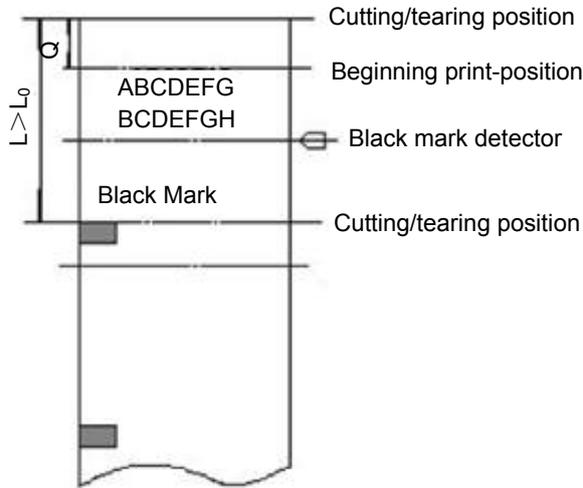

Figure 7-4
- (2) When the distance L between the cutting/tearing position and the black mark position is greater than the inherent mechanical value L0 of the printer (shown as figure 7-4), the calculation of cutting/tearing position offset is shown as follows: